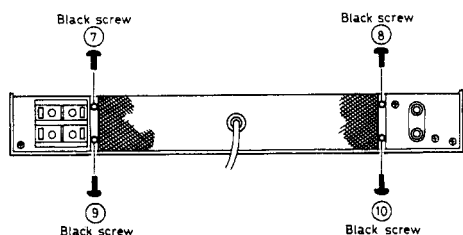

Fig. 2
3. Remove 4 setscrews (⑦ ~ ⑩ in Fig. 2) which secure heat sink-cover on the rear panel.